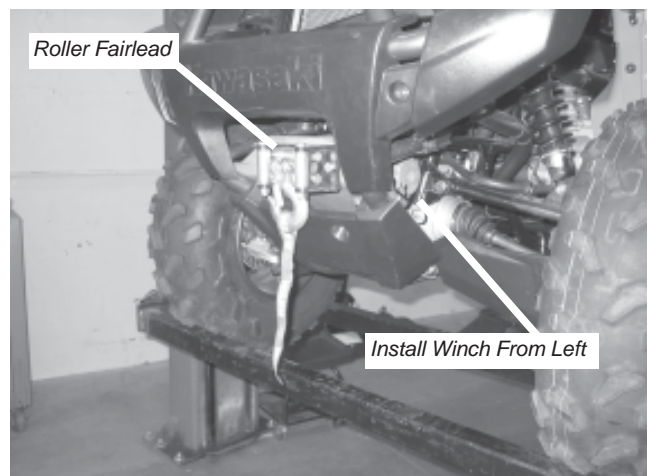

Figure 6 Install Winch and Roller Fairlead
**Note: For 2008 and later model years B2 u-bolt will be replaced with an additional quantity (2) of B1 u-bolt; (Frame tube size is smaller on 2008 and later model years and smaller u-bolt allows for a more secure fit to frame).**
6. Install winch from the left side of the vehicle, as sitting on the vehicle, Figure 6. Fasten winch with hardware supplied with the winch. Mount the winch so that the motor faces the right side of the vehicle. Tighten the bolts to a recommended torque of 17 N-m (12 ft-lb).
Also attach roller fairlead to the winch mounting plate, Figure 6, using two hardware provided in the winch kit. See instructions included in winch kit for recommended torque.